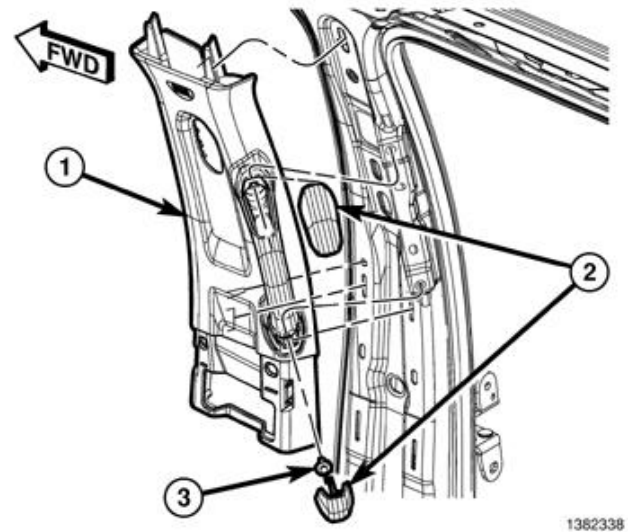

Figure 8 – B-Pillar Upper Trim Panel
13. On the B-pillar, use a small flat-bladed tool to carefully open the two fastener covers (2) located on the grab handle (Figure 8).
14. Remove the two bolts (3) that secure the grab handle to the B pillar (Figure 8).
15. Using a trim stick C-4755 or equivalent, release the retaining clips that secure the B pillar upper trim panel (1) then position the trim panel out of the way. It is not necessary to remove the seat belt from the trim panel (Figure 8).
45. Install the B-pillar upper trim panel (1) and engage the retaining clips fully (Figure 8).
46. Install the grab handle bolts (3) and tighten to 5 N·m (44 in. lbs.). Close the fastener covers (2) (Figure 8).